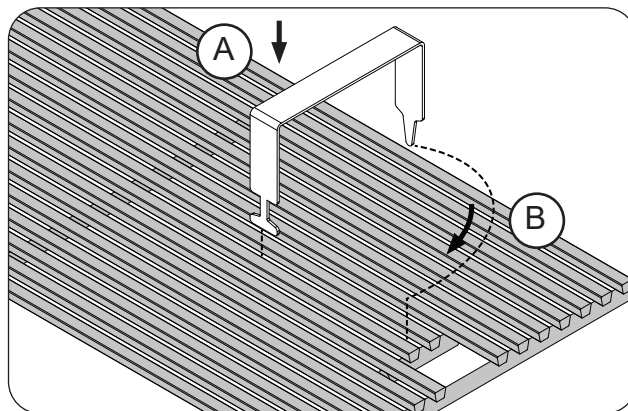
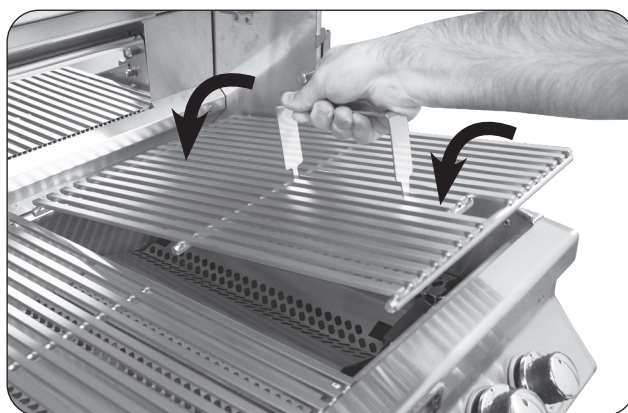

Fig. 29-1 Install cooking grids
Fig. 29-2 Install cooking grids
1. With the prongs facing downward, insert the notched-end of the lifter between two grid rods, then rotate, as shown in Fig. 29-1, A & B.
2. Insert the rear pointed-end of the lifter between the same two rods (Fig. 29-1, B) and carefully lift the cooking grid and place onto the front and rear grid rests of the grill (see Fig. 29-2). Repeat for all other cooking grids.